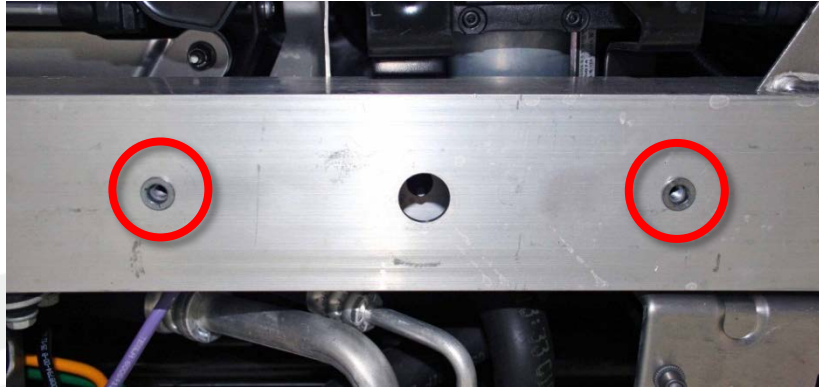

Figure 6
7. Install a rivet nut (2007016) into each hole (Figure 6).